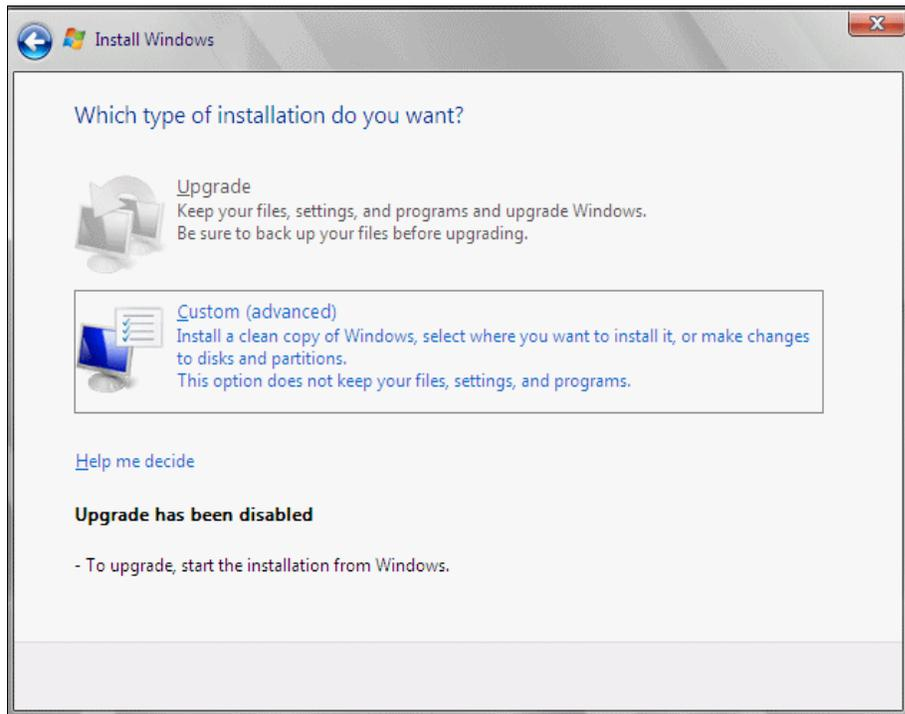

Figure 10-43 Selecting Custom installation option
6. Click **Custom (advanced)**, as shown in Figure 10-43.